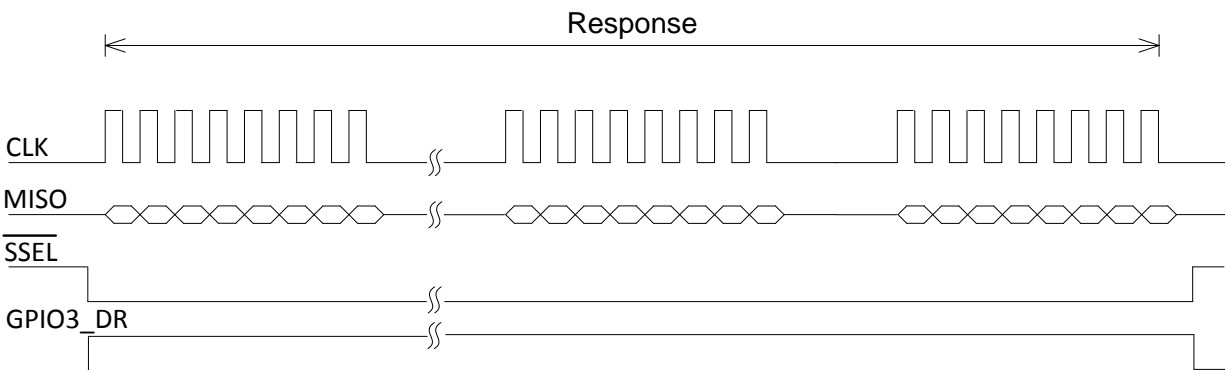

**Figure 10-6: SPI Request Timing**
- For the request data on the MOSI line, the host software should keep the SSEL pin at steady state low as shown in Figure 10-6 below.